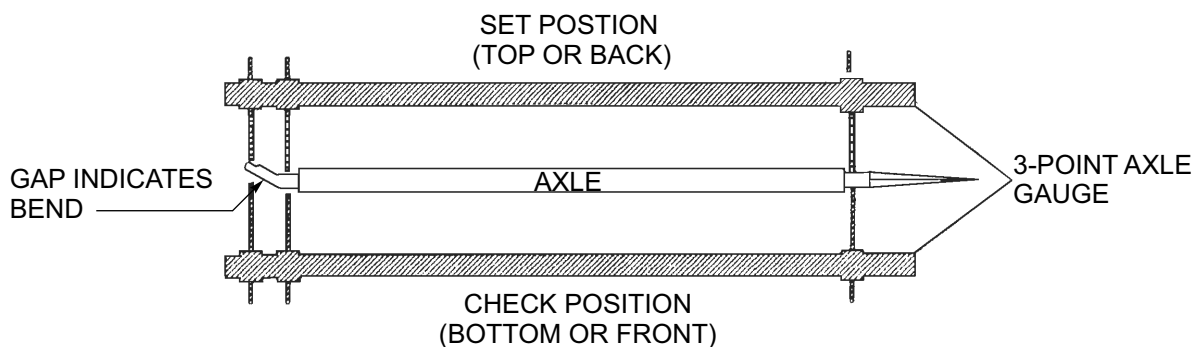

Figure 4-10: Checking Axle for Bend
2. Place a 3-point axle gauge against the front side of the axle, and adjust each axle gauge point to the axle. (Double point end against the inner and outer wheel bearing surfaces of the spindle being checked and the other point on the inner bearing surface on the other spindle (See Figure 4-10.)
3. Move the axle gauge and place against the back side of the axle. If either of the points of double point end fails to touch the axle surface, a bent spindle is evident. A point gap of .015" or more is considered excessive tire “toe” and the axle must be replaced (See Figure 4-10.)